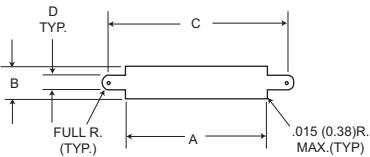
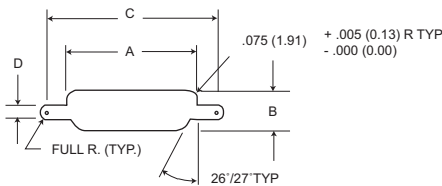

Figure 1
Figure 2
- Front mounting (figure 1) and rear mounting (figure 2) accommodates #2-56 screws.
5. Front mounting (Figure 1) and rear mounting (Figure 3) accommodate #2-56 screws.